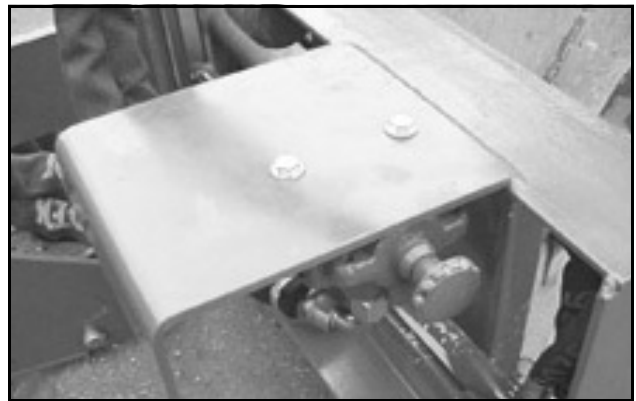

Figure 10.
8. Shift the diverter valve back to the planing position by pushing the knob inward as shown in Figure 10.